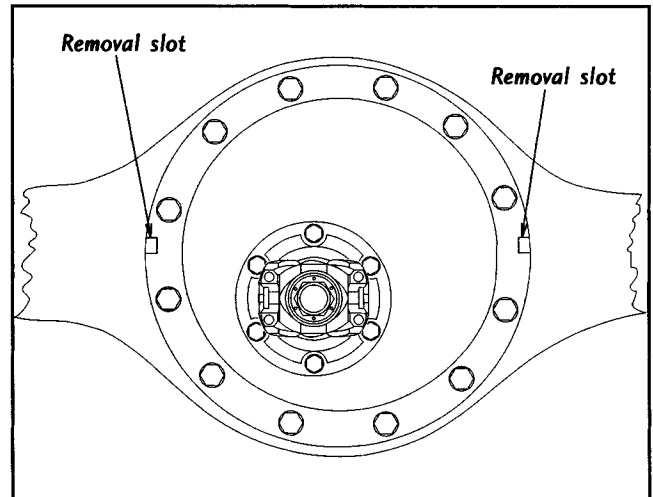

Figure 2
9. Separate differential carrier from the housing using removal slots. (See Figure 2) be certain carrier is